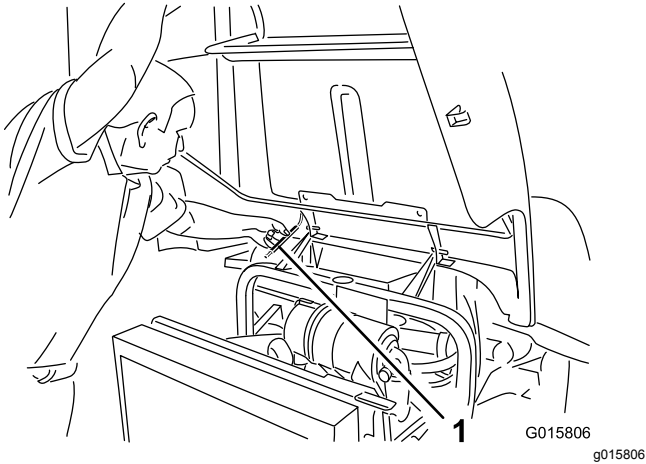

Figure 64
2. Lift up the hood until you can position the prop rod behind the frame tube (Figure 64).